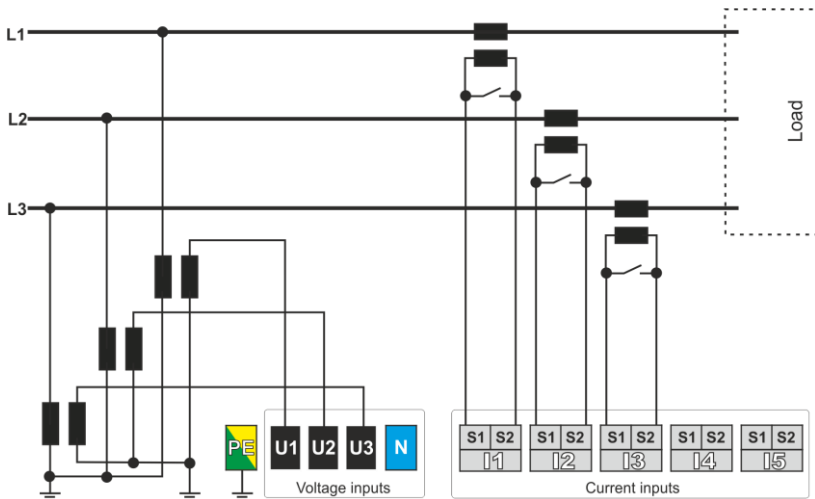

Fig. 29. Wiring diagram – 3-phase 3-wire indirect system with voltage transducers.
- in 3-phase 3-wire network (Fig. 29).